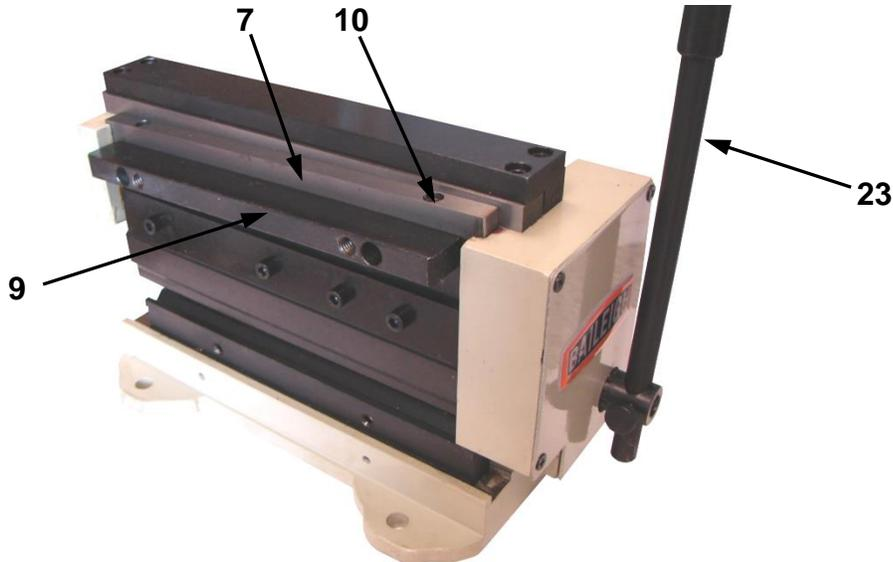

figure 6
2. Loosen and remove the two mounting screws (#10) for the lower cutter as shown in (fig. 6).